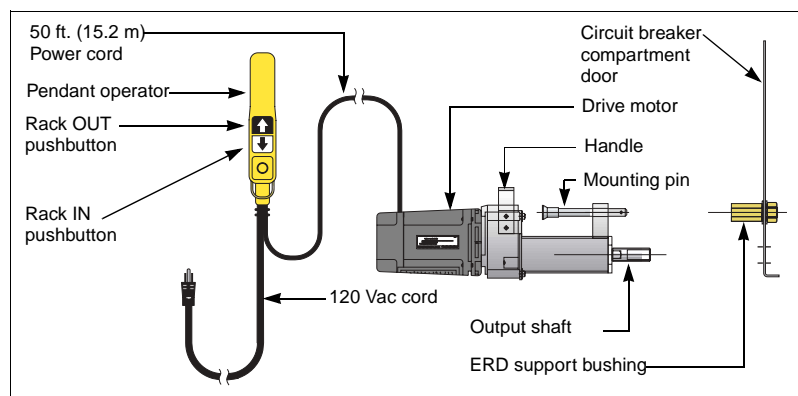

Figure 2: Electric Racking Device Components
Figure 2 identifies the main components of the ERD.
If an ERD is shipped with the switchgear, a door mounted ERD support bushing well is factory installed (see Figure 2). Contact your local Square D field sales representative if these items are needed but were not ordered with the switchgear.
5. Press and hold the RACK IN pushbutton (see Figure 2 on page 1) until a loud “clicking” sound is heard (approximately 6 seconds after pressing the pushbutton). Release the pushbutton immediately when the clicking sound begins. Verify that the racking position indicator on the compartment door reads CONNECTED (see Figure 4).
1. Open the circuit breaker. Verify that the circuit breaker is in the **OPEN (O)** position. Remove the control power fuses to the circuit breaker closing/opening/charging circuits.
5. Press and hold the RACK OUT pushbutton (see Figure 2 on page 1) until a loud "clicking" sound is heard (approximately 6 seconds after pressing the pushbutton). Release the pushbutton immediately when the clicking sound begins (see Figure 6).